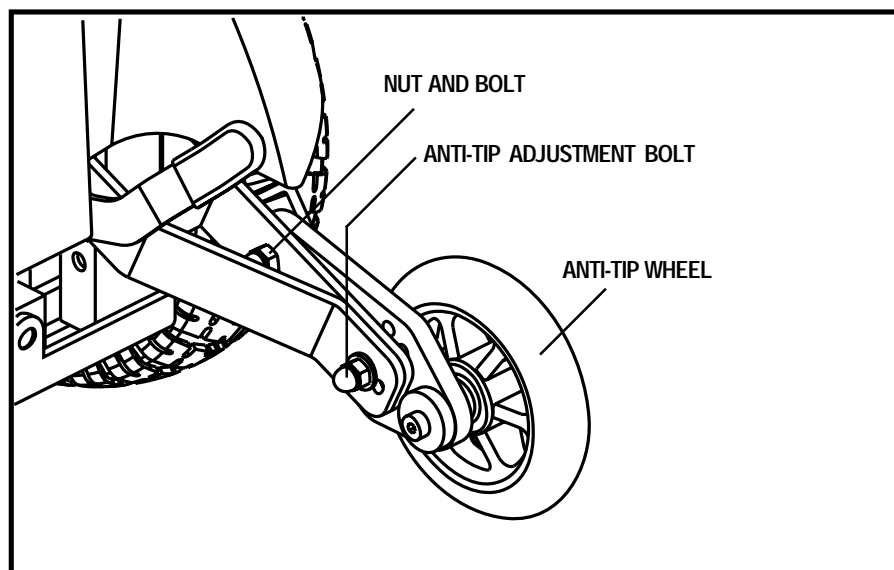

Figure 31. Anti-Tip Adjustment
2. Loosen the nut and bolt that fasten the anti-tip spring to the anti-tip arm. See figure 31.